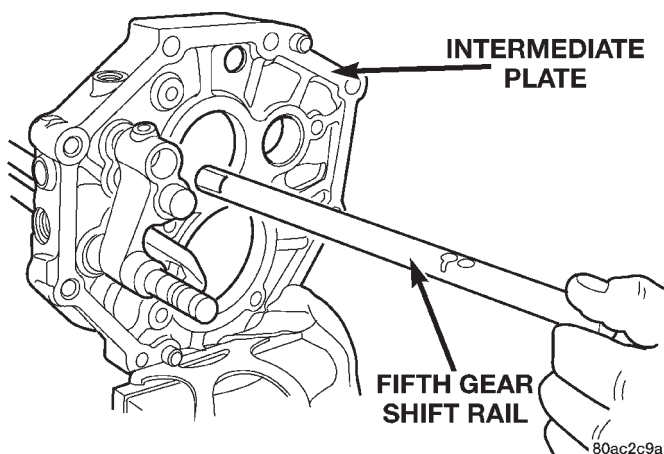

Fig. 84 Install Fifth Gear Shift Rail
(13) Install fifth gear shift rail (Fig. 84).